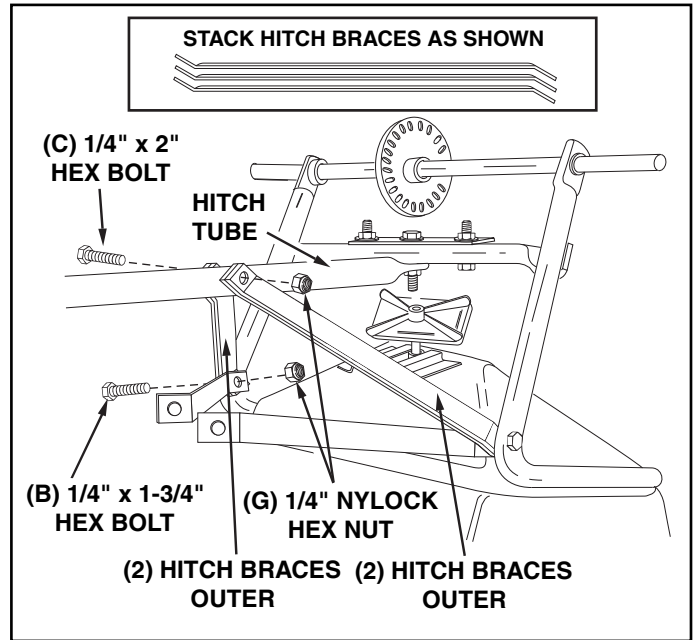

FIGURE 2
4. Stack the hitch braces into two sets of three, making sure the raised sides of the braces are facing the same direction. See figure 2.
5. Assemble the six hitch braces (three per side) to the inside of the hopper frame using a 1/4" x 1-3/4" hex bolt (B) and 1/4" nylock hex nut (G) on each side. **DO NOT TIGHTEN YET.** The hitch braces should be able to move freely. See figure 2.
6. Assemble the two **outer** hitch braces on each side to the hitch tube using a 1/4" x 2" hex bolt (C) and a 1/4" nylock hex nut (G). **DO NOT TIGHTEN YET.** Do not assemble the two inner hitch braces at this time. See figure 2.